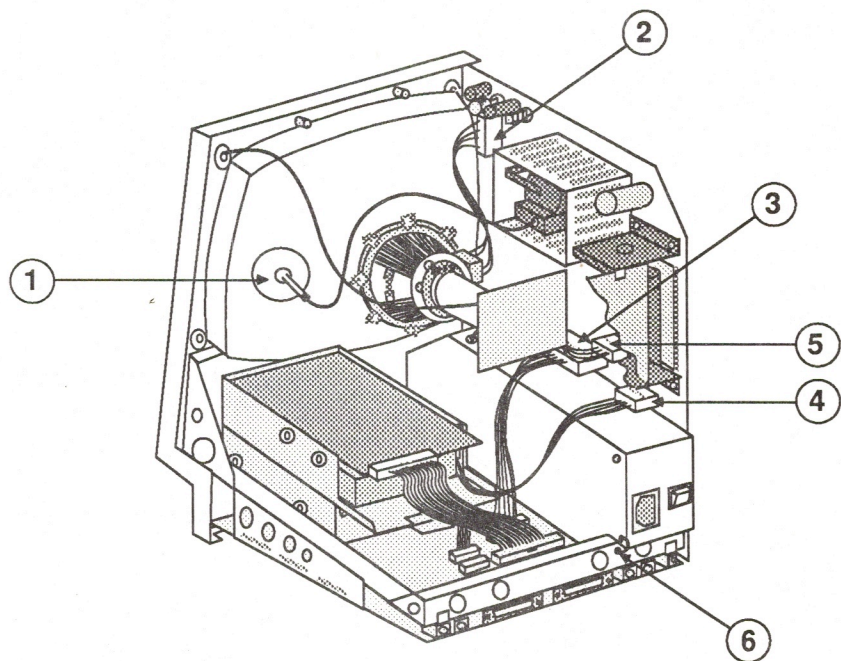

FIGURE 5
2. Remove the anode cap (Figure 5, #1).
- Yoke cable (Figure 5, #2). (First depress the tab.)
- Main logic board cable (Figure 5, #3)
- Hard disk power cable, if present (Figure 5, #4)
- Video board cable (Figure 5, #5)
5. Remove the screw holding the power supply ground wire to the chassis (Figure 5, #6).